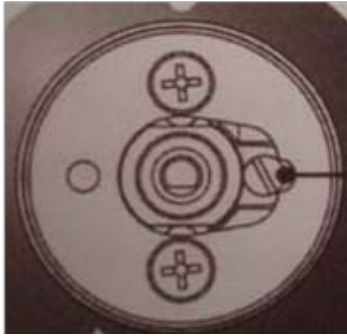

Figure 1
### Minimum flow of cooking hob taps (Figure 1)
- Using a screwdriver, adjust the internal screw until the correct low flame is obtained, the screw is located just to the right of the shaft see figure 1